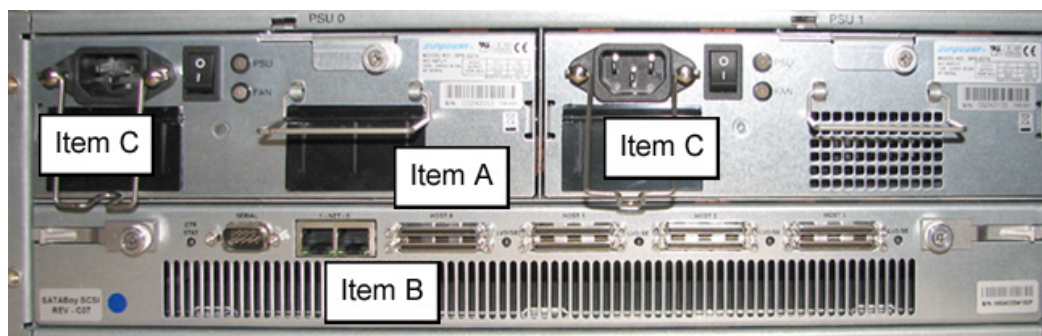

Figure 2 - Back of the Nexsan SATABoy
- C. Plug the other end of the SCSI cable into the storage device's upper **left** disk “0” (zero) channel (see Figure 2, Item A).
- D. Plug the other end of the CAT-5E crossover cable into the storage device's port “0” (zero) on the right (see Figure 2, Item B).
- E. Plug the storage device's AC power cords into the back of the unit (see Figure 2, Item C).